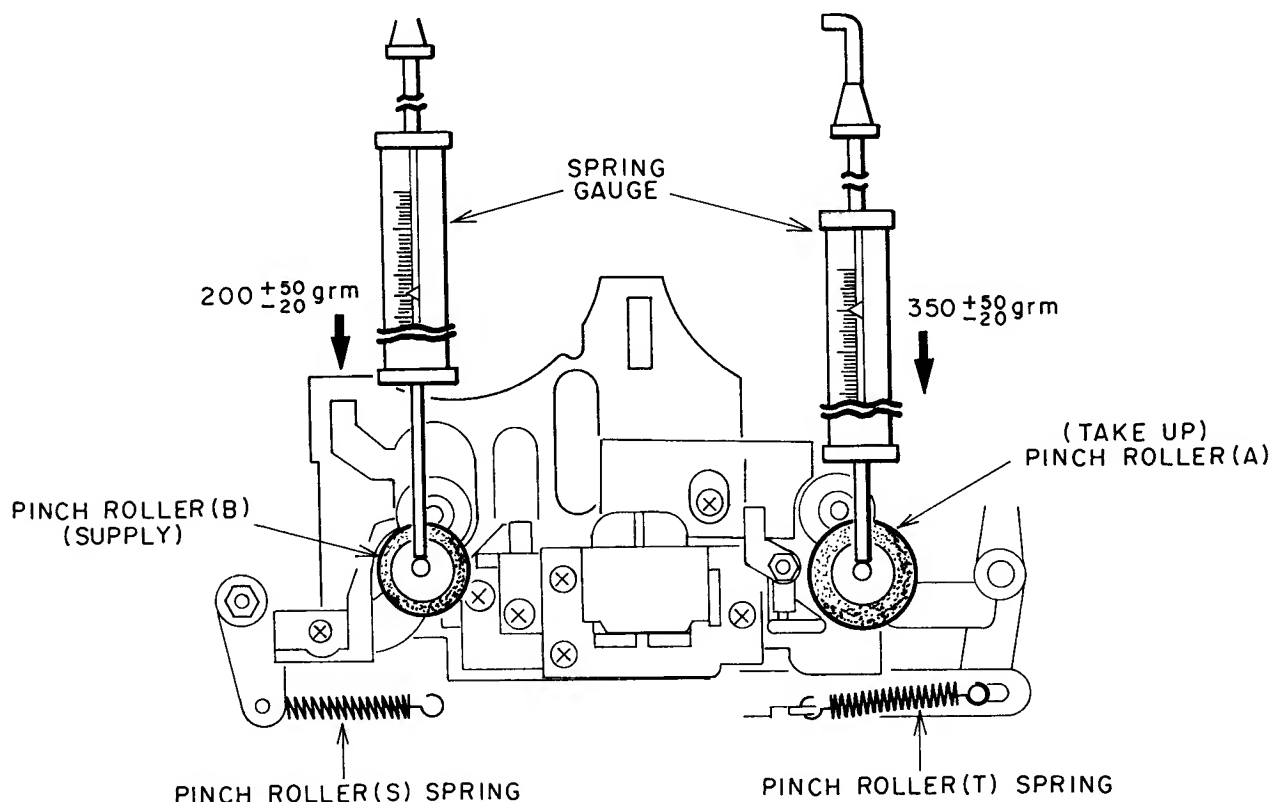

Fig. 2-9
1. PINCH ROLLER PRESSURE MEASUREMENT (Refer to Fig. 2-9)